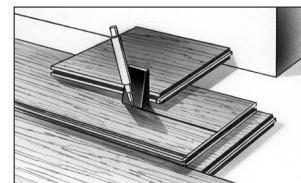

Figure 10
- Place the row of planks to be fit on top of the last row of installed planks. Use a divider or a piece of the plank as a scribe to trace the contour of the wall (Fig. 10).